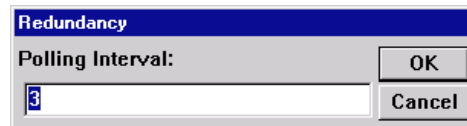

Figure 7-5. Polling Interval Window
1. Click on the gray button to the right of the Polling Interval field in the upper right-hand corner of the Redundancy Configuration window; the Polling Interval window, Figure 7-5, will appear.